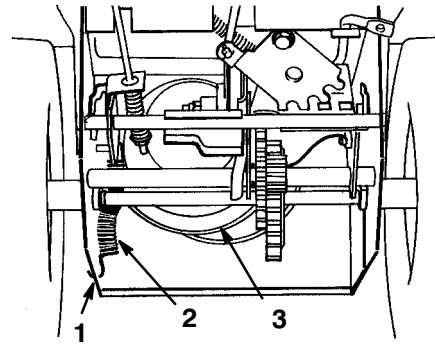

Figure 25
- Disconnect the spring from the notch in the bottom edge of the side plate (Fig. 25).
- Hook the spring into the notch in the bottom edge of the side plate (Fig. 25).